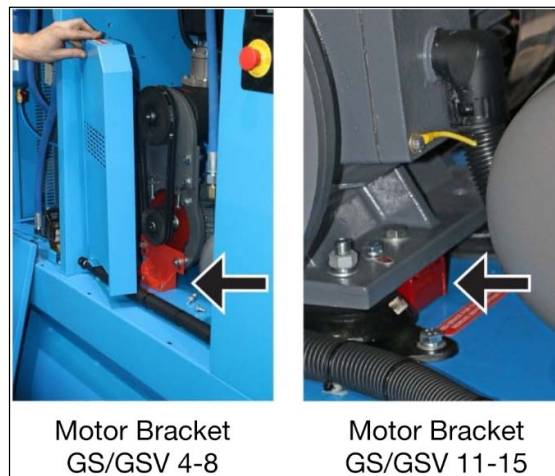

Figure 5-1 Shipping Brackets
- b. Remove the shipping brackets attached between the baseframe and the air end / motor assembly as shown in Figure 5-1.